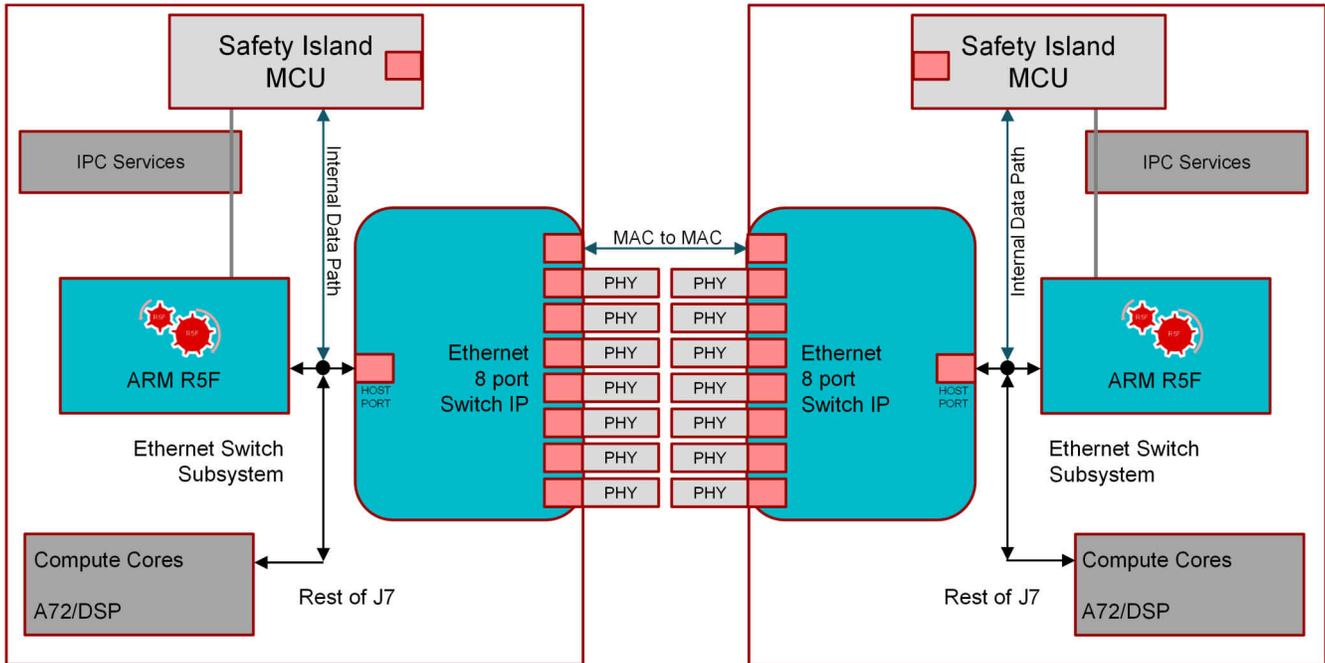

Figure 2-5. MAC2MAC Between SOC to SOC
- When the performance of a single Jacinto7 processor cannot meet the system requirements, it is very convenient to integrate multiple Jacinto7 SOC's on a single board. In such a scenario it helps to connect the CPSW switches over MAC2MAC. The system block diagram is shown in Figure 2-5.